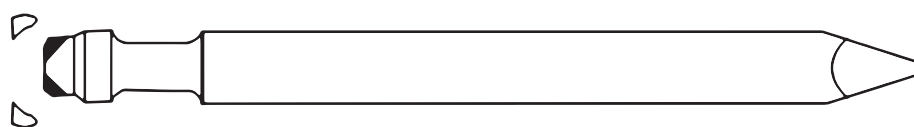

FIG 8-2
(1) Damage with the striking face of plunger or with contact point of rod flat-pin (Fig 8-2, 3)